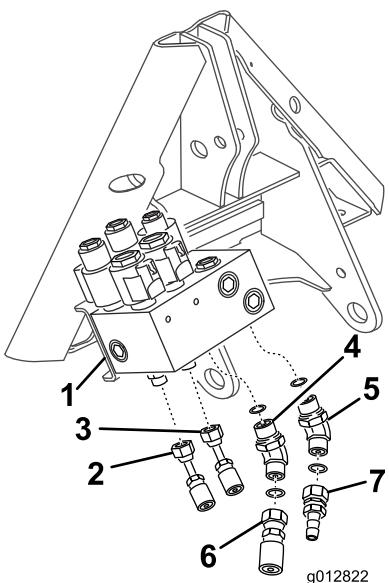

Figure 14
18. Connect the 2 hoses from the hydraulic cylinder to the fittings on the bottom of the hydraulic manifold (Figure 14 thru Figure 16). Orientate the fitting as shown in Figure 15.
- 1. 30 degrees (2)
- 2. 30 degrees (2)
19. Thread the 45 degree hydraulic fittings into the bottom of the hydraulic manifold (Figure 14). Orientate the fitting as shown in Figure 15.
20. Secure the short hose (25 inch) to the 45 degree fitting on the manifold (Figure 14).
21. Secure the long hose (95 inch) to the other 45 degree fitting on the manifold (Figure 14).